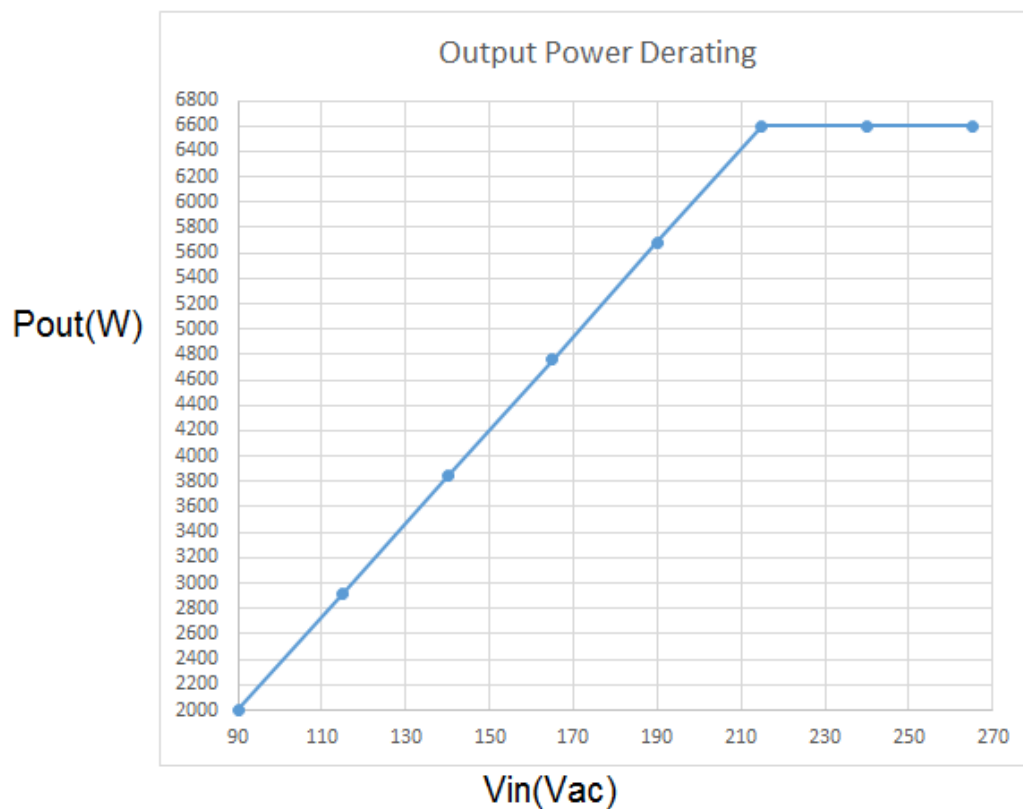

Figure 2: Power derating of Wolfspeed's CRD-06600FF065N-K, 6.6kW Bi-Directional EV On-board Charger.
- Output power derating is shown in Figure 2 when the input voltage is between 90Vac and 215Vac. It is linearly derated from 6.6 kW to 2kW based on the input voltage while operating in AC/DC mode.
- Synchronous rectification (SR) is automatically controlled with load. SR is typically enabled when the load current exceeds 5A. When it is below 2A, SR is disabled.